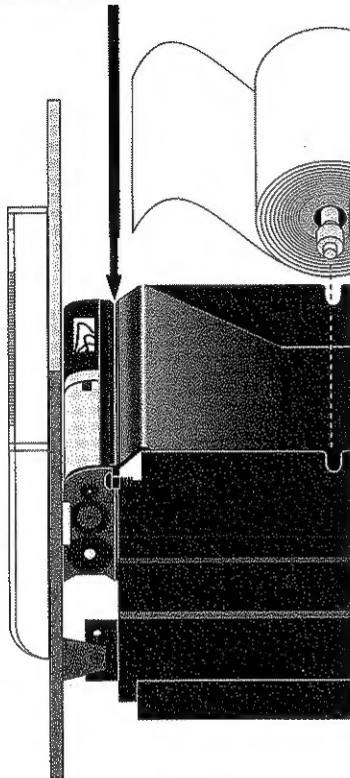

FIGURE 5:
5. Feed the paper straight down into the printer mechanism directly behind the plastic guide bar as shown in FIGURE 5. As illustrated, the paper must exit the roll from the bottom, not the top. Do not insert the paper behind the thin metal guide located directly behind the plastic guide bar. Gently feed the paper down as far as it will go by hand. When resistance is felt, continue to hold downward pressure on the paper while simultaneously pressing and holding the paper feed button. The printer mechanism should draw the paper in and feed it out the front slot in the printer door and up along the inside of the printer lens/tear bar. If the printer mechanism does not draw the paper in, or the mechanism sounds like it is laboring excessively, remove the paper, make a fresh cut in it, and repeat the feed process.